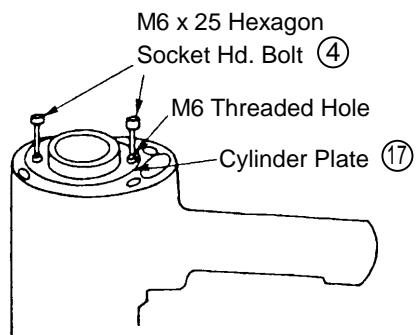

Fig. 10 Removal of cylinder plate
- As illustrated in Fig. 10, screw two of the M6 x 25 Hexagon Socket Hd. Bolts ④ partially into their matching holes on the Cylinder Plate ⑯. Using the bolts, pull the Cylinder Plate upward while turning it to remove it from the Body.